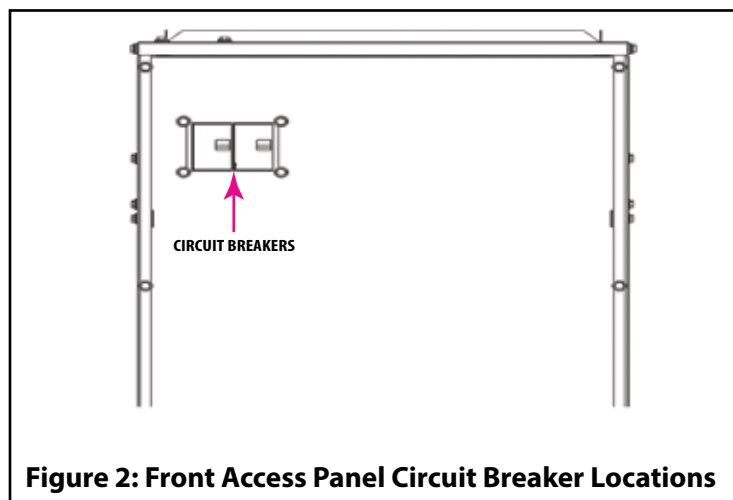

Figure 2: Front Access Panel Circuit Breaker Locations
4. Turn the circuit breaker(s) located on the front panel of an electric heat air handler to "ON" position (See Figure 2).
4. Turn the circuit breakers on the front of an electric heat air handler to the "OFF" position (See Figure 2).